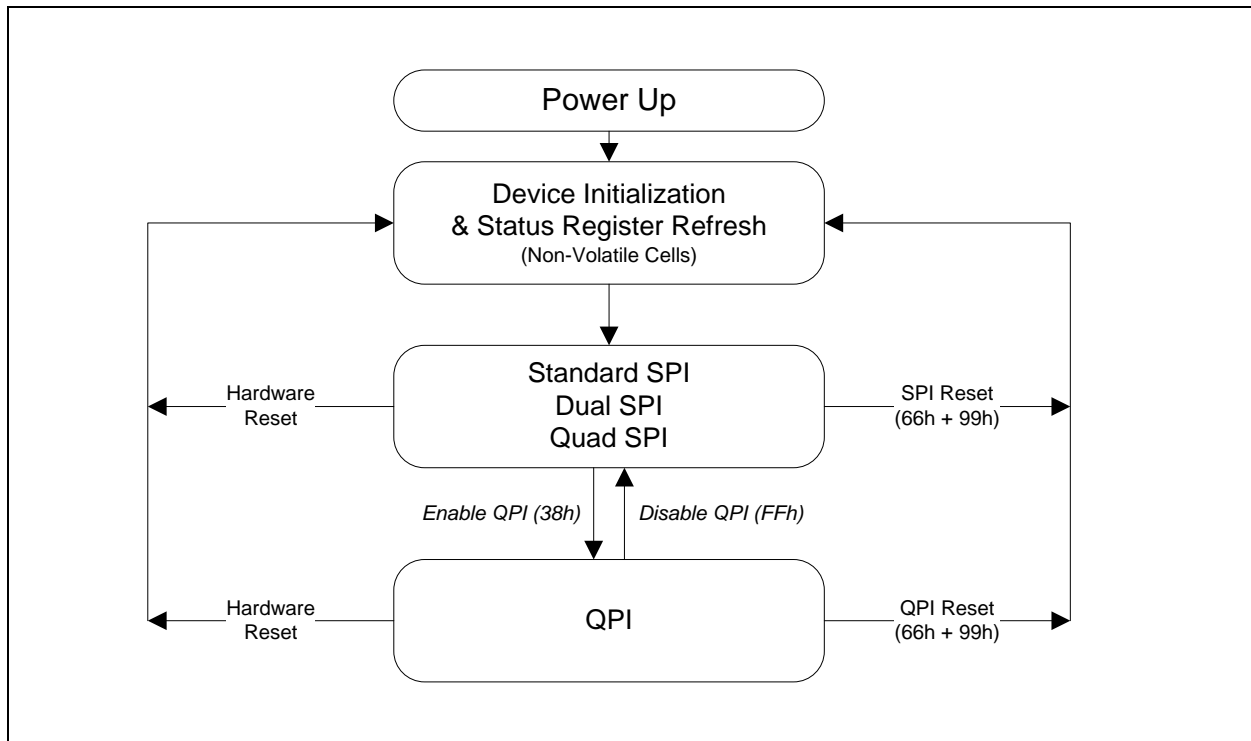

Figure 3. W25Q32FW Serial Flash Memory Operation Diagram
The W25Q32FW supports Quad Peripheral Interface (QPI) operations only when the device is switched from Standard/Dual/Quad SPI mode to QPI mode using the “Enter QPI (38h)” instruction. The typical SPI protocol requires that the byte-long instruction code being shifted into the device only via DI pin in eight serial clocks. The QPI mode utilizes all four IO pins to input the instruction code, thus only two serial clocks are required. This can significantly reduce the SPI instruction overhead and improve system performance in an XIP environment. Standard/Dual/Quad SPI mode and QPI mode are exclusive. Only one mode can be active at any given time. “Enter QPI (38h)” and “Exit QPI (FFh)” instructions are used to switch between these two modes. Upon power-up or after a software reset using “Reset (99h)” instruction, the default state of the device is Standard/Dual/Quad SPI mode. To enable QPI mode, the non-volatile Quad Enable bit (QE) in Status Register-2 is required to be set. When using QPI instructions, the DI and DO pins become bidirectional IO0 and IO1, and the /WP and /HOLD pins become IO2 and IO3 respectively. See Figure 3 for the device operation modes.